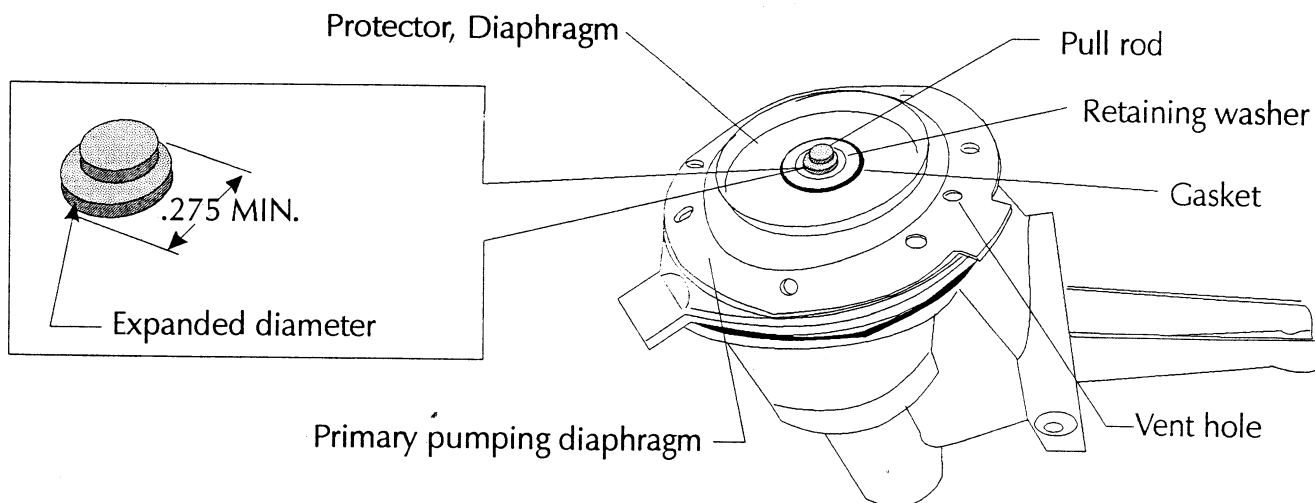

Figure 2.
4. Visually inspect for proper location and retention of the gasket in the pull rod/diaphragm assembly. (Refer to Figure 2.) If the gasket is not found to be between the retaining washer and diaphragm protector or it protrudes more than 1/16 inch beyond the retaining washer at any point, the pump is unserviceable and must be replaced.